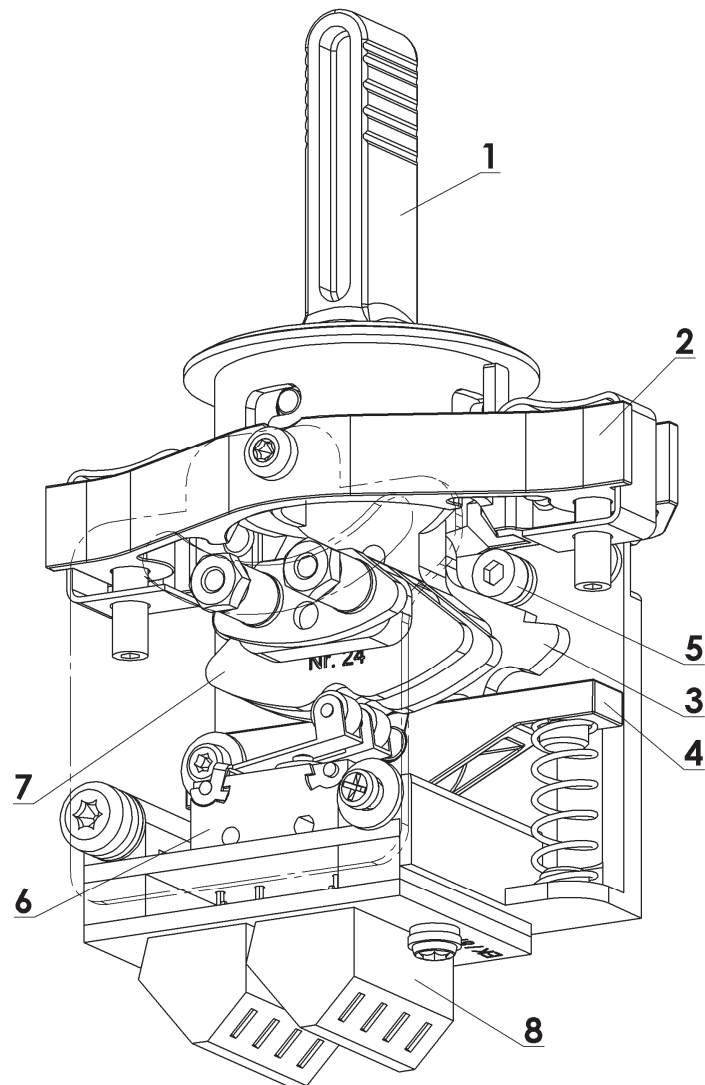

Figure 2: Design
Figure 2 provides information on the lever switch's basic design features. As one can see, it basically consists of an operator handle (1), which is supported by a flange plate (2). The form of the operator handle can vary. See the dimension drawings of the units (S41 – S45).